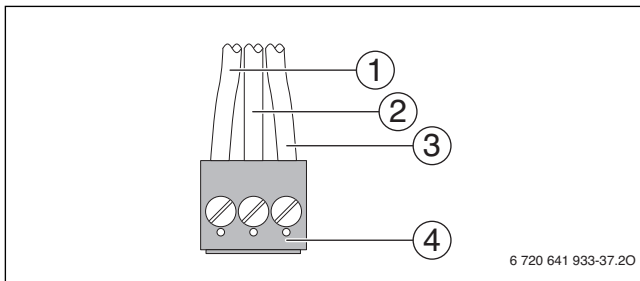

Fig. 54 Attach plug (external DHW tank loading pump or 3-way valve)
- Connect cable to **the red plug** according to Fig. 54.